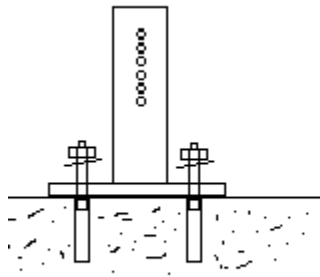
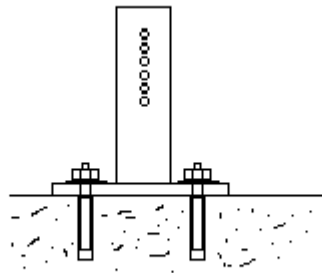
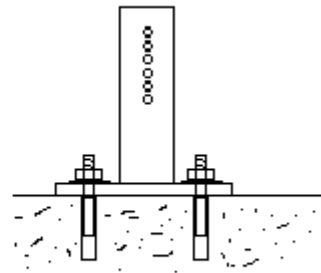

Figure 1
Figure 2
Figure 3
1. Following completion of layout, use a concrete hammer drill and concrete drill bit, drill (2) 3/8" x 4" deep holes at the proposed location. Insert (1) "D" Wedge Anchor slightly in each hole (to ease install) leaving the threaded end up and outside of the hole. Gently place the StandRite-Pro™ over the anchors and place the anchor flat washer and nut on each anchor just far enough to expose the tip of the anchor (see figure 1). (Do not tighten down the nuts at this time). With anchors slightly in the holes and StandRite-Pro™ in place and washers and nuts loosely started on anchor per figure 1, drive anchors into the concrete holes with a hammer insuring you do not make contact with the nuts themselves (see figure 2). Once anchors have been driven down, use a suitable wrench to tighten the nuts. Note that the anchors will rise out of the holes slightly until the wedge collar on the anchor seats on its wedge (see figure 3).